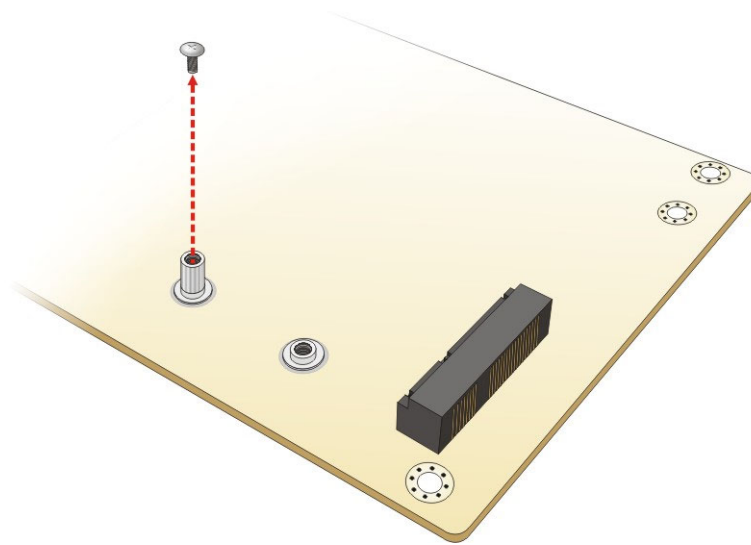

Figure 4-5: Removing the Retention Screw
Step 2: Remove the retention screw. Remove the retention screw as shown in **Figure 4-5**.
Step 2: Remove the retention screw. Remove the retention screw as shown in Figure 4-5.